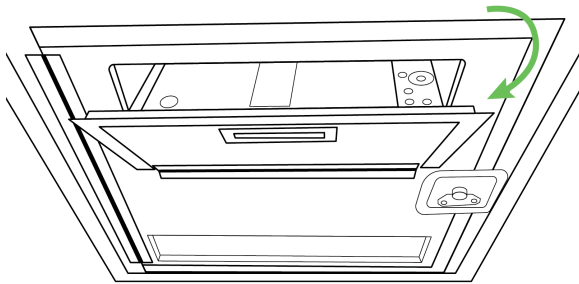

Figure 6-34. Exposing the printer door
4. Pull open the small hatch located on the front door of the setup box to expose the top of the printer (Figure 6-34).